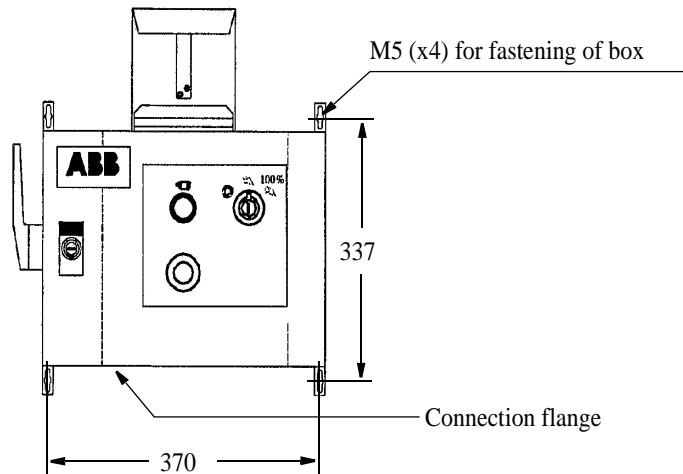

Figure 19 Operator's panel mounted in a box (all dimensions in mm).
- 183 External, mounted in a box. (See Figure 19)